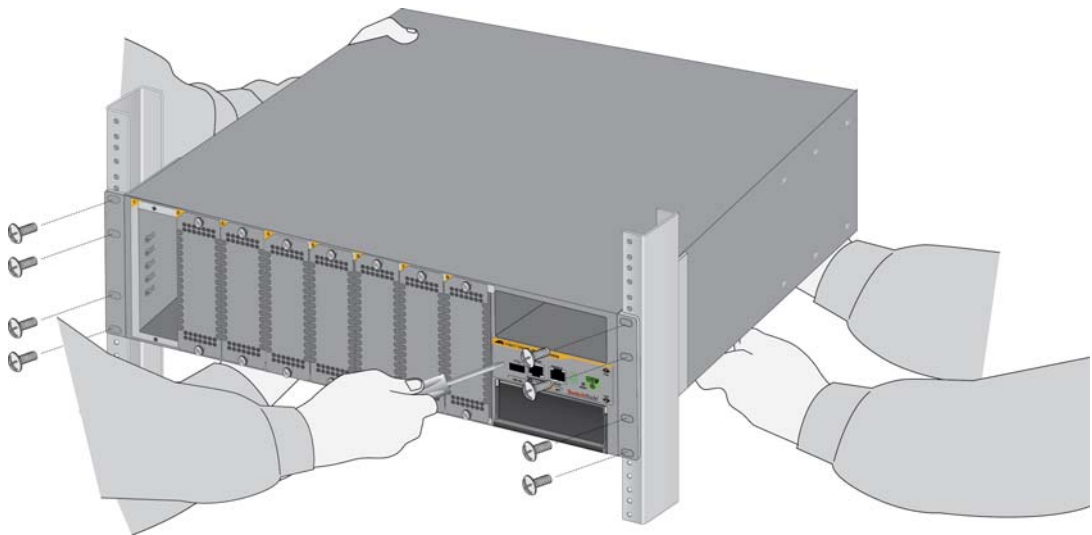

Figure 22. Securing the Chassis to the Equipment Rack
3. Have two other people hold the chassis in the equipment rack at the desired location while you secure it using eight standard equipment rack screws (not provided). Refer to Figure 22.